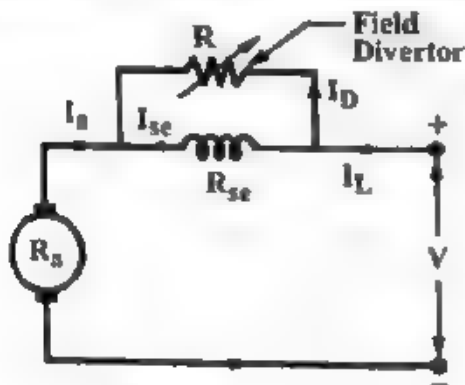

Fig. 4.15
(1) Field Divertors – In field divertors method, a variable resistance R is connected in parallel with the series field winding as shown in fig. 4.15. Its effect is that it diverts the path of the current I_L drawn by the motor. Some of the current I_D flows through diverter and the current flowing through the series field winding is decreased which decreases the flux ϕ . Hence, the motor speed is increased ($N \propto 1/\phi$). Consequently by this method, only speeds above the normal speed can be obtained.